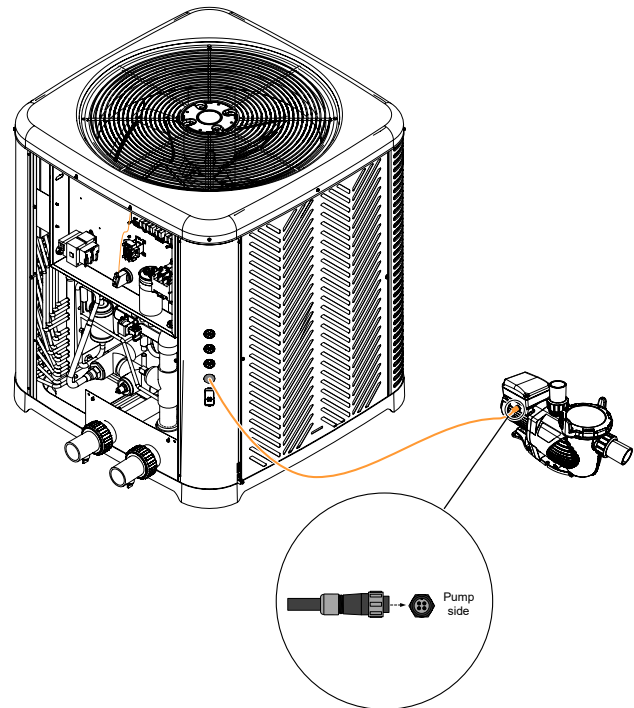

Figure 138. Keyed Circular Connector
2. Connect the keyed circular connector of the pump harness to the pump. See Figure 138.